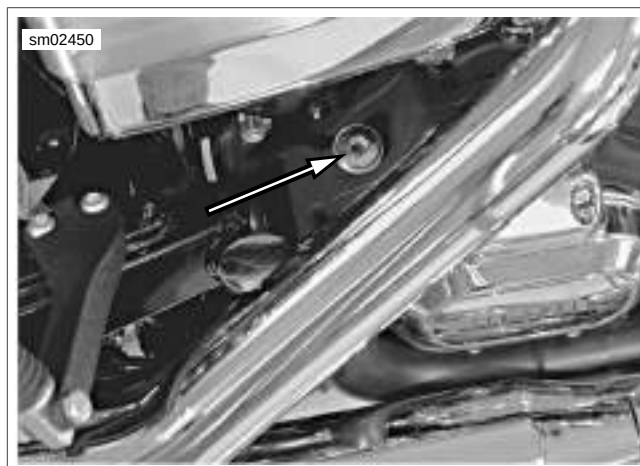

Figure 1-17. Transmission Filler Plug/Dipstick Location
1. See Figure 1-17. Remove transmission filler plug.